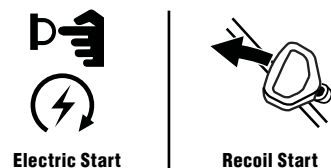

Figure 5-2
**NOTE:** The following starting instructions apply to several different engines. See Figure 5-2.